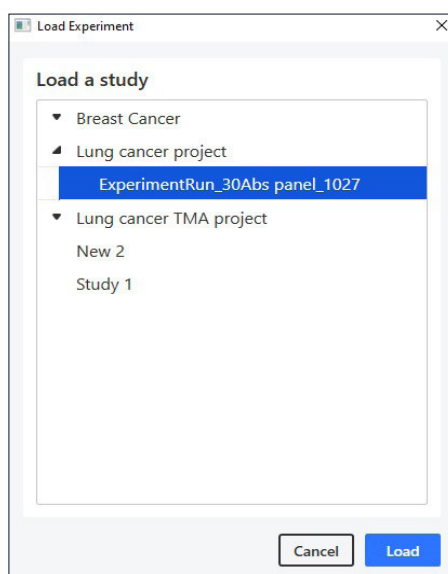

FIGURE 4.20. Load a Study window.
1. Select the Load button on the Main Screen. (See Figure 4.20.)